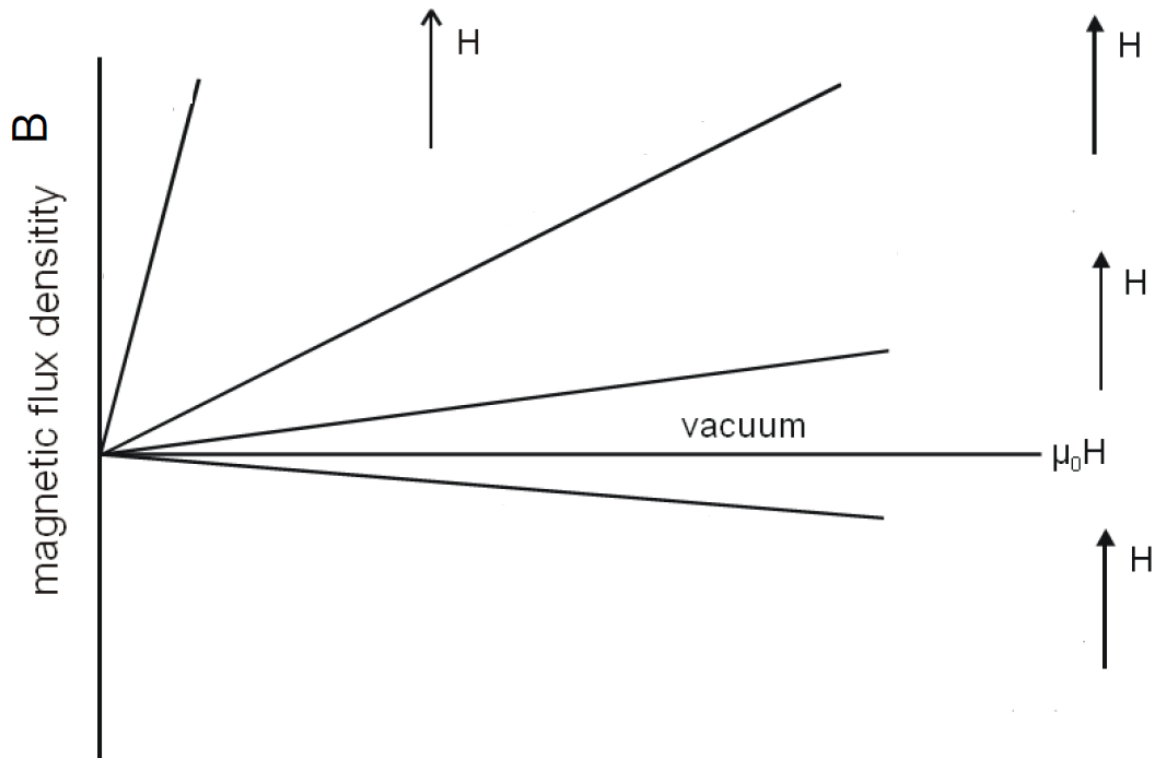

Figure 1
- a) Describe the types of magnetism occurring in metals. Sketch the magnetic moments for these types of magnetism in the Figure 1. (4 Points)
Chromium is an important alloying element for the design of corrosion resistant steels. Sketch a current-density potential-curve of a stainless steel in Figure 1. Indicate all characteristic current density and potential Points from the legend in the sketched diagram. (6 Points)